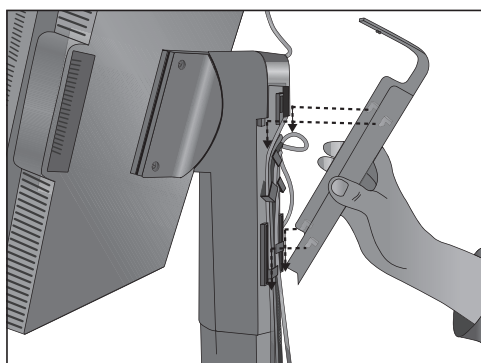
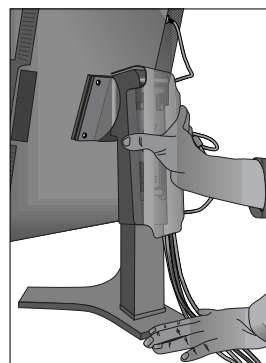

Figure D.1
Figure D.2
8. Hold all cables firmly and place the cable cover onto the stand (**Figure D.1**). To remove the cable cover, lift the cover off as shown in **Figure D.2**.